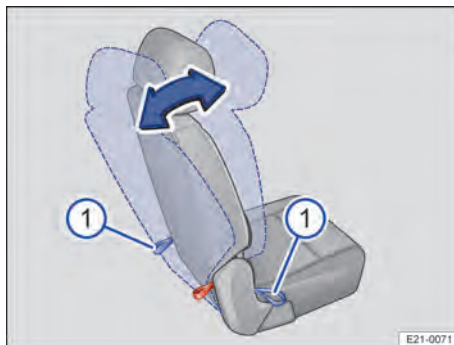

Fig. 64 Second row of seats: Adjusts the angle of the backrest.
1. Place one hand on the backrest on the single seat or the two-seat bench. At the same time, pull one of the corresponding loops with your other hand → Fig. 64 ①.